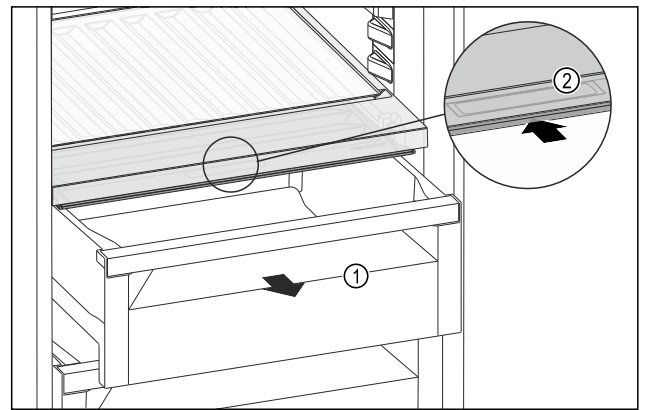

Fig. 184
- ▶ Pull out the drawer Fig. 184 (1).
- ▶ Grasp the recessed grip Fig. 184 (2) on the compartment lid and push the compartment lid backwards at the same time.